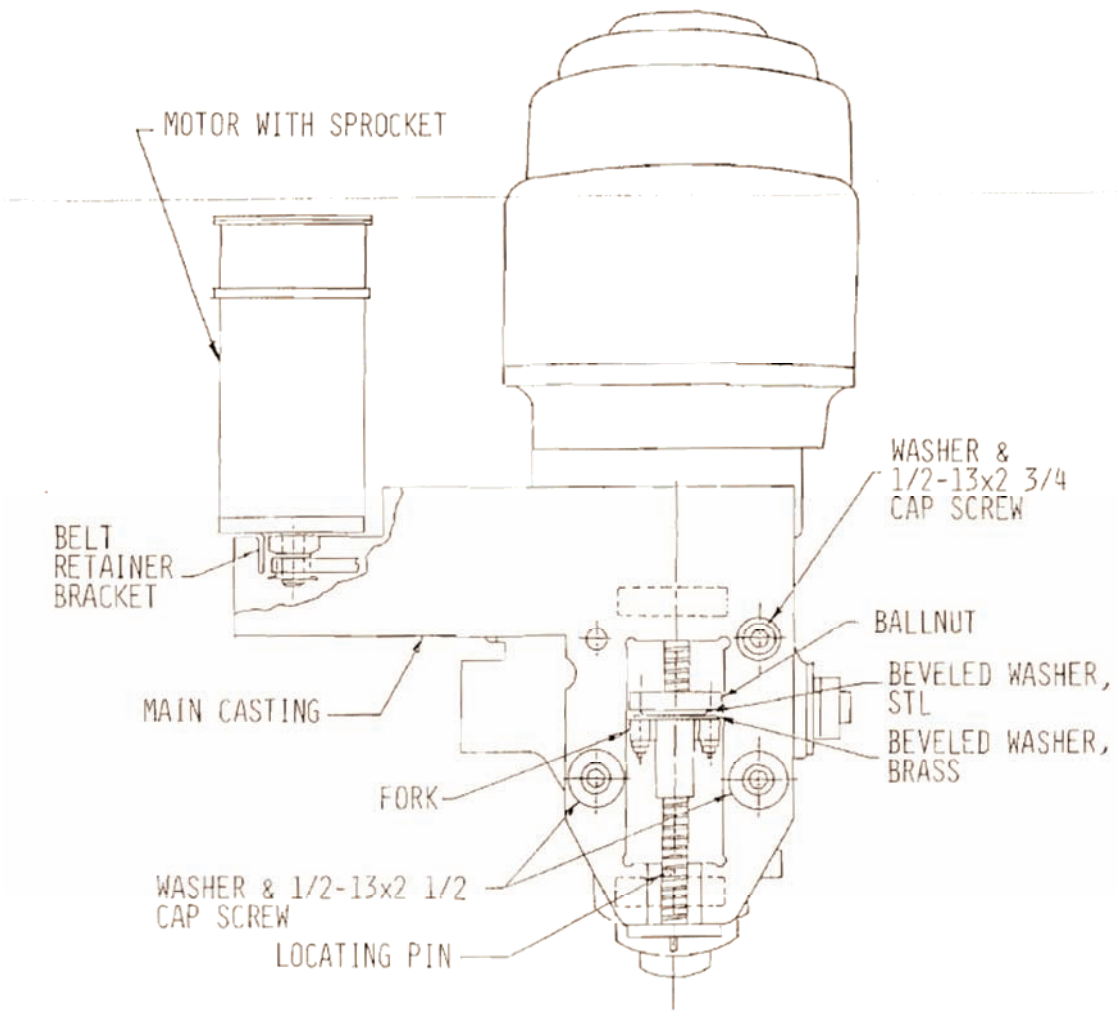

Figure 3-6
Step 9 (see figure 3-6)
Step 11 (see figure 3-6)
Step 18 (see figure 3-6)